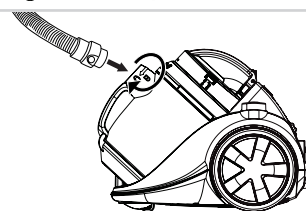

Figure 2
1. Insert the hose connector into the hose opening on the motor unit and turn it clockwise. To remove the hose pull the connector from the opening; see Figure 2.